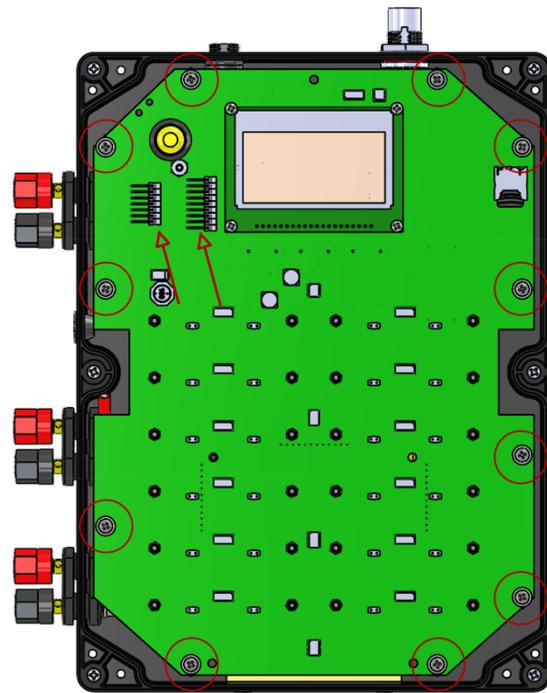

Figure 41
4. Remove the (11) screws holding the FM PCB. (see figure 41)
6. Remove the 11 screws holding the board to the outer case; carefully remove the ribbon cables before opening the board (See Figure 41).
7. After installing or replacing your component(s), replace the PC board, reconnect the ribbon cables (location shown by red arrows in figure 41), install the (11) PC board screws, (6) outer enclosure screws, and (12) spring terminal blocks and hardware. Tighten all screws until snug and lock washer has collapsed. Repeat the continuity test to ensure the block is correctly seated.